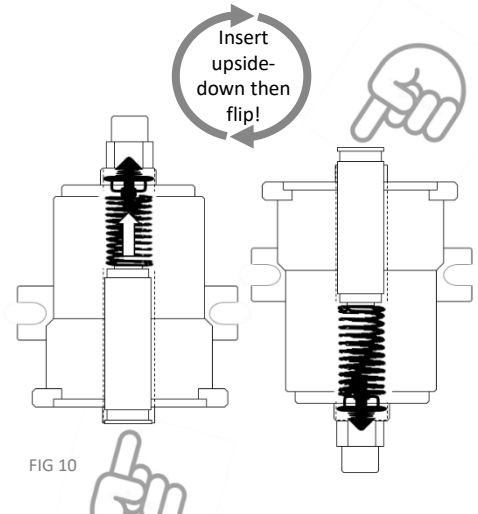

FIG 10
- Replace the removed spring that comes out with the new Heavy Duty spring and assemble plunger, spring and spring check valve in the manner shown (fig 10)
Pump components may not have been correctly inserted or oriented	Ensure check valves and components are installed as shown on page 3 fig 10